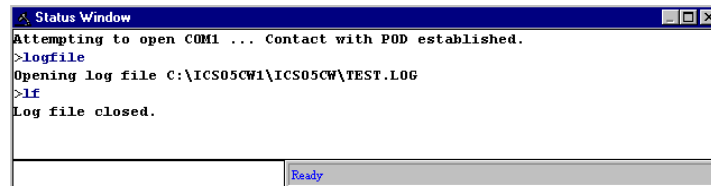

Figure 6-10. Results of Entering the LF Command in the Status Window
- Choose the Start Logfile option from the ICS05BW File menu, or enter the LF command in the Status Window command line (Figure 6-10).